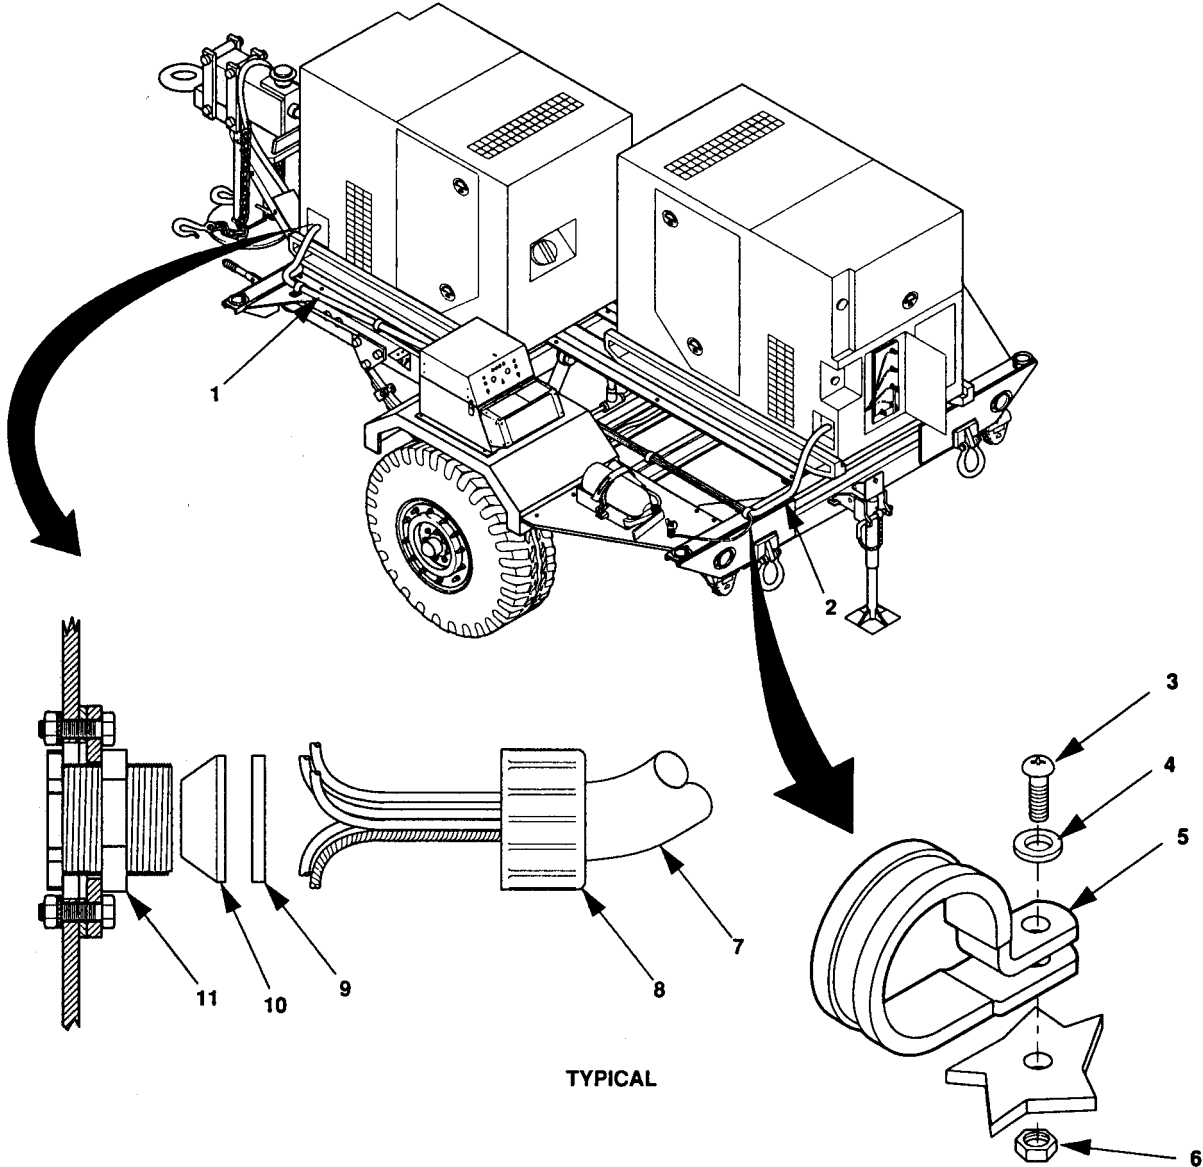
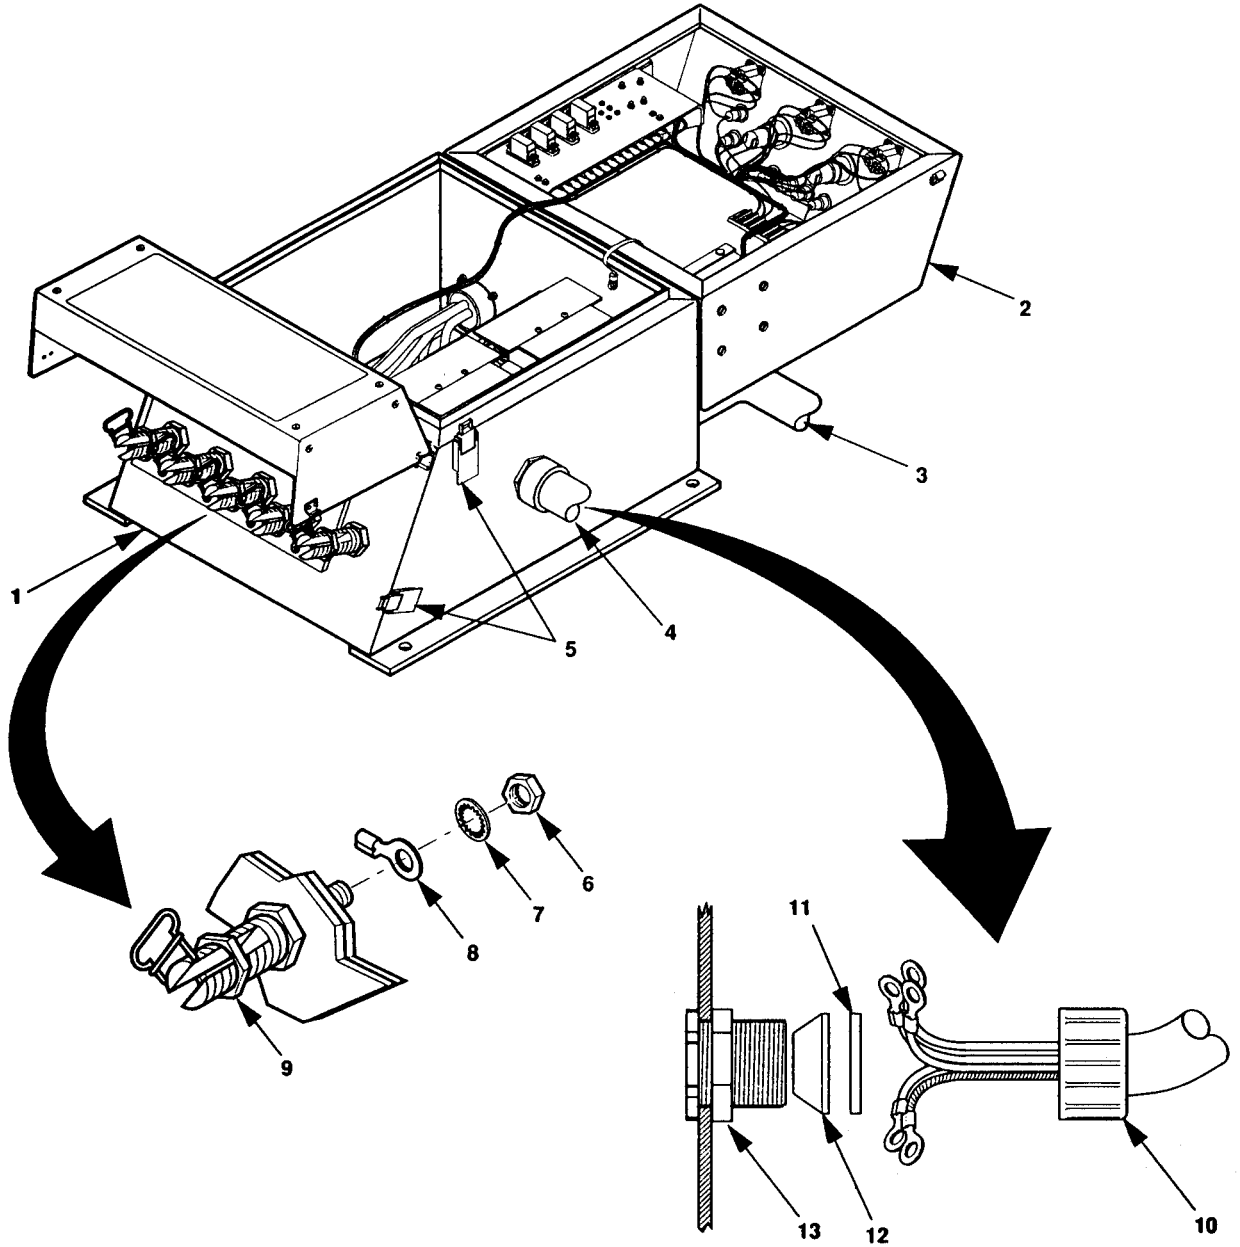

Figure 4-11. Disconnect Power Cable from Generator Set.
Figure 4-12. Disconnect Power Cable From Switch Box Terminals.
- a. Remove stuffing tube compression nut (8, figure 4-11) from stuffing tube body (11).
- b. Remove two screws (2) and lock washers (3) from contactor terminal shield (4) of contactor associated with power cable being removed.
- c. Remove contactor terminal shield (4).
- d. Remove nuts (5), lock washers (6), and flat washers (7) from contactor terminals (9).
- e. Lift terminal leads (8) from contactor terminals (9). Remove only the terminal leads associated with electrical leads of power cable being removed. If necessary to remove other terminal leads to access those for power cable being disconnected, reinstall other terminal leads onto contactor terminals (9).
- f. Install flat washers (7), lock washers (6), and terminal nuts (5) on contactor terminals (9).
- g. Remove hex nuts (6, figure 4-12) and internal tooth washers (7) from ground and LO terminals (9) of switch box.
- h. Remove only the wire associated with the power cable being replaced. If necessary to remove other terminal leads to access those for power cable, reinstall other terminal leads on terminal (9).
- i. Place internal tooth washers (7) over the end of terminals (9) and loosely install the hex nuts (6).
- j. Remove stuffing tube compression nut (10) from stuffing tube body (13).
- k. Pull power cable (3 or 4) through stuffing tube until ends of power cable are free of stuffing tube body (13).
- l. Remove washer (11), seal (12), and stuffing tube compression nut (10) from power cable (3 or 4). Place items back on stuffing tube and tighten.
- a. Remove self-locking nuts (6, figure 4-11), screws (3), and flat washers (4) securing clamps (5) to trailer. Remove cable (3 or 4).
- b. Remove clamps (5) off power cable (3 or 4).
1. Install stuffing tube compression nut (10, figure 4-12), washer (11), and seal (12) on end of power cable (3 or 4) having leads with terminal lugs.
2. Insert terminal lug end of power cable (3 or 4) into stuffing tube assembly (13) and slide forward until end of power cable outer covering is visible inside switchbox (1).
3. Slide seal (12), washer (11), and stutling tube compression nut (10) forward and tighten compression nut.
4. Remove hex nut (6) and internal tooth washer (7) from load terminal L0 (9) and install lead marked L0.
5. Install internal tooth washer (7) and hex nut (6). Tighten hex nut.